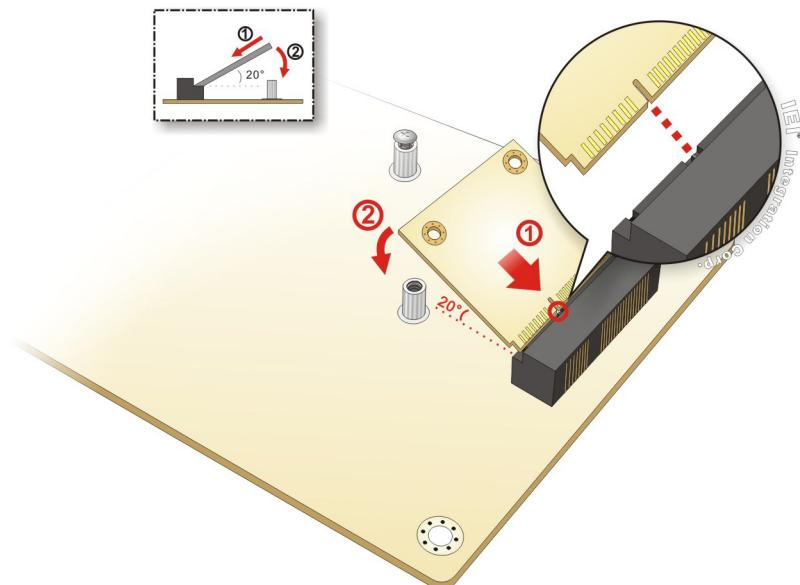

Figure 4-7: Inserting the Half-size PCIe Mini Card into the Slot at an Angle
Step 3: **Insert into the socket at an angle.** Line up the notch on the card with the notch on the slot. Slide the PCIe Mini card into the socket at an angle of about 20° (**Figure 4-7).**